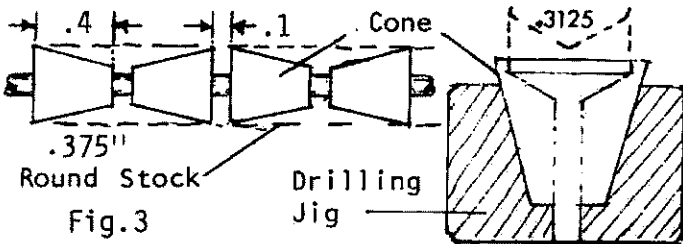

Fig. 3
c. The cones are best made on a Unimat or similar type small metal lathe. Several cones can be turned at once and then cut into separate pieces. (Fig. 3)
d. Place finished cones in a drilling jig on a drill press. (Fig. 3) Drill through cone with a .0625" dia drill.